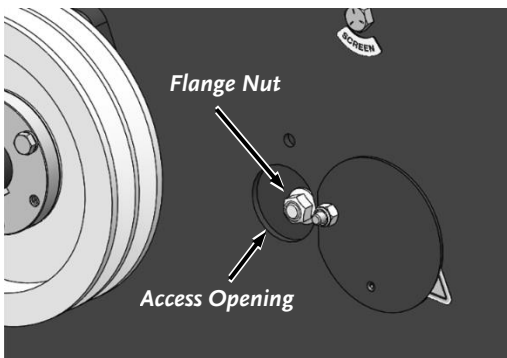

Figure 47
14. Through the Access Opening, use a Socket Wrench with a 9/16" Deep Socket to loosen and remove the Flange Locknut (**Figure 47**). Discard the Locknut, as it will not be reused.
19. Through the Access Opening, thread a new Flanged Locknut onto the Hammer Shaft, (**Figure 47**).